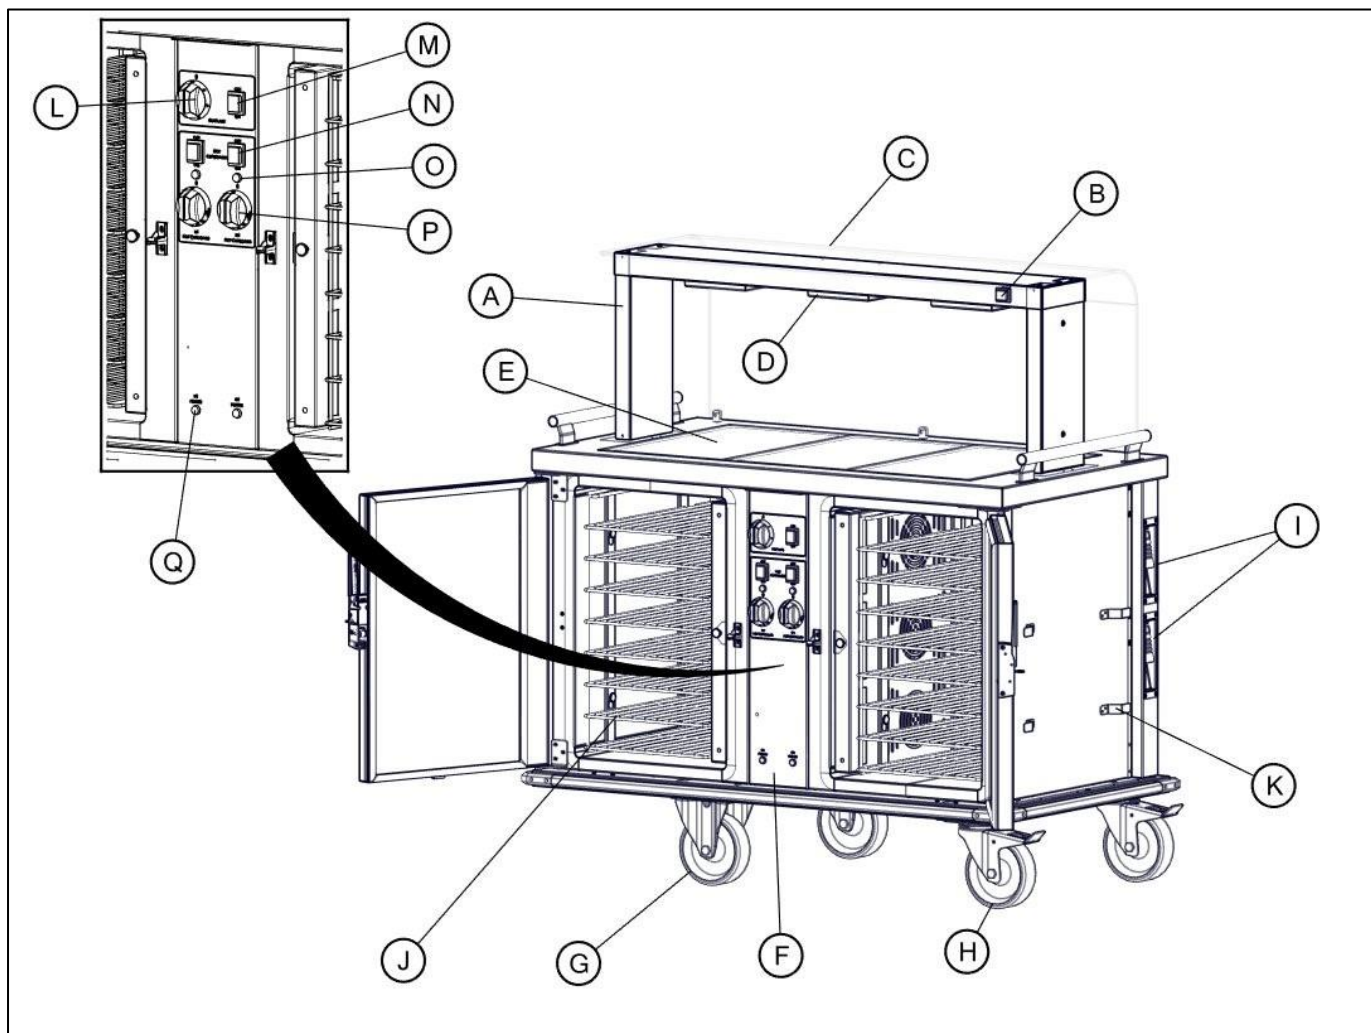

FIG 1
4.2 CONTROLS (REFER TO FIG 1)
4.4.4 To turn the hot plates on, switch the 'hotplate on/off switch' (Fig1-M) to the on position (1)
4.4.5 Rotate the 'hotplate temperature control knob' (Fig1-L) to achieve the desired heat output. Knob is marked 1 to 6 with 6 being the hottest setting.
4.4.6 To turn the hotplates OFF – Rotate the 'hotplate temperature control knob' (Fig1-L) to the "O" position and switch the 'hotplate on/off switch' (Fig1-M) to the off position (0)
4.5.1 All gantry lights (Fig1-D) are switched on together when gantry switch (Fig1-B) is switched ON (I).
4.5.2 Press gantry switch (Fig1-B) to (O) position to switch all lights OFF.
4.6.1 To turn the hot cupboards on, switch the 'hot cupboard on/off switches' (Fig1-N) to the ON position (1) Note: Left switch operates the left cupboard and right switch the right cupboard.
4.6.2 Rotate the relevant 'hot cupboard temperature control knob (Fig1-P) to the desired temperature (70 TO 100°C) The corresponding amber neon (Fig1-O) will illuminate.
Hot cupboards On/Off switches (Fig 1-N) "OFF":	Both cupboard fans and heating elements are OFF.
Hot cupboards On/Off switches (Fig 1-N) "ON", Hot cupboard temperature control knob(s) (Fig 1-P) OFF	Fans only operating, Cupboards will not heat. Hint: This setting can be used to cool hot cupboards with doors open.
Fan and Hot cupboard On/Off switch (fig 1-G) "ON", Hot cupboard temperature control (fig1-H) set between 70 – 100.	Fans and hot cupboards will both work. Hint: Set thermostat control from 70 to 100c for desired hot cupboard temperature.